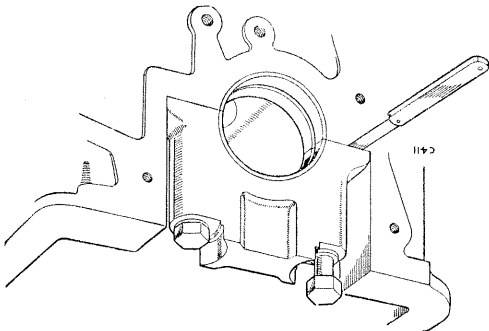

Fig. A-68—Checking main bearing nip
1. Remove the bearing caps and fit the bearing shells, locating by means of the tags. Tighten the caps down and slacken off one bolt of each pair. Check the bearing nip, as illustrated in Fig. A-68, ensuring that the clearance does not exceed .004 to .006 in. (.010 to .015 mm). The nip can be corrected by selective assembly of bearing shells; these are available in slightly varying thicknesses.